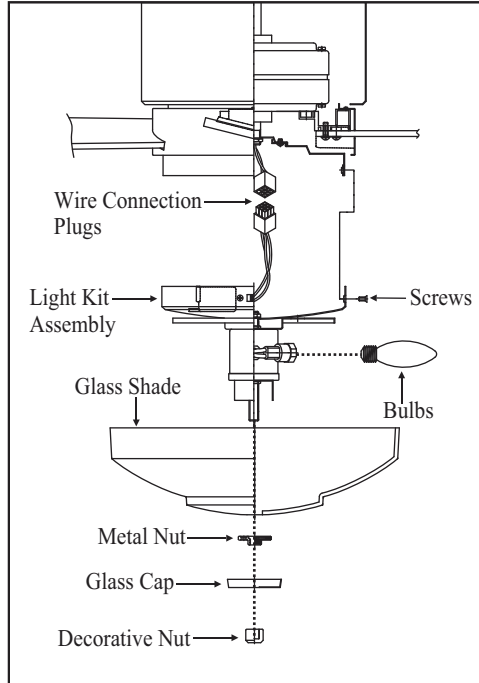

Figure 17
1. While holding the light kit assembly under your fan, snap together the wire connection plugs. (Fig. 17)
2. Carefully push all wires back into the switch housing, then install the light kit assembly onto the mounting plate with 3 screws. Be sure to tighten all screws. (Fig. 17)
4. Remove the metal nut, glass cap and decorative nut from the light kit. Place glass shade over the light kit stem, secure with the metal nut (rubber side on the top), glass cap and decorative nut. Do not overtighten. (Fig. 17)